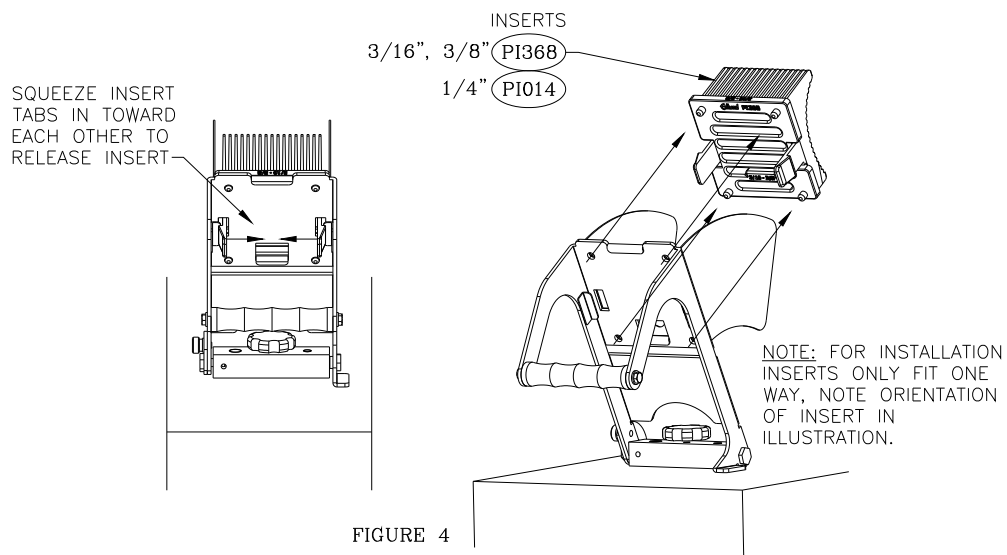

FIGURE 4
- B) Squeeze Insert Tabs in toward each other to release Insert. Pull Insert straight out away from Pusher. See figure 4.